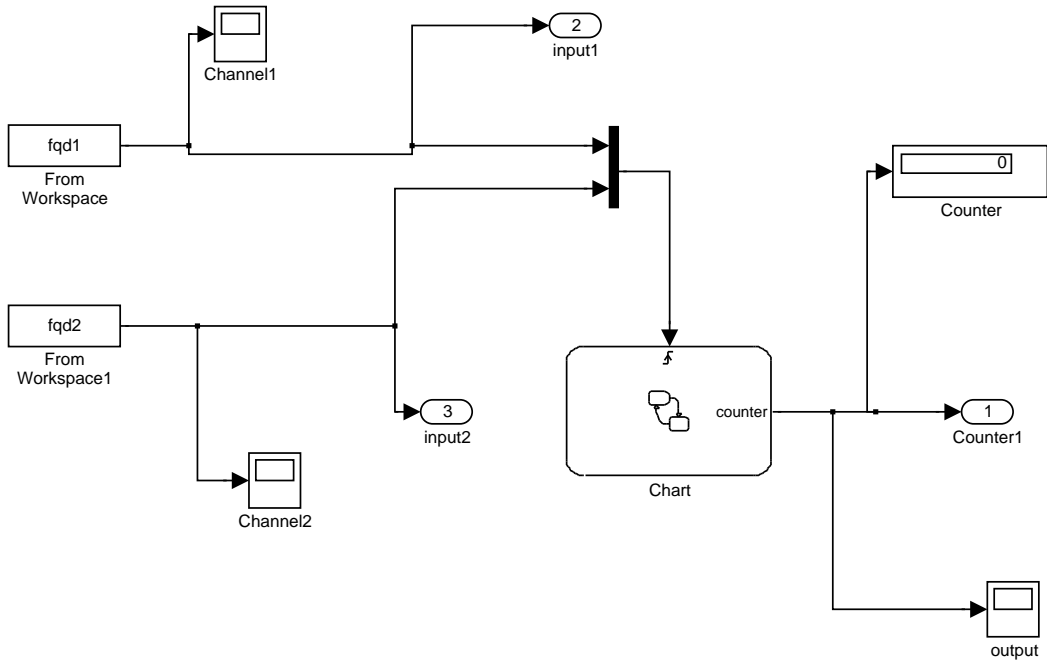
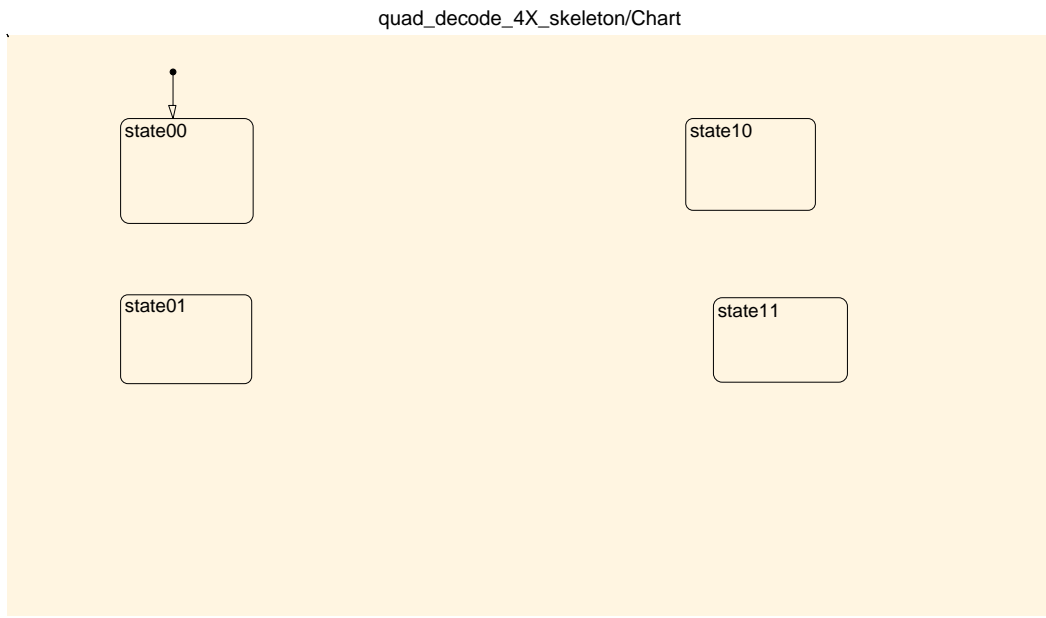

Figure 4: Simulink Model for Normal (4X) Mode Quadrature Decoding
Figure 5: Incomplete Stateflow Chart for Normal (4X) Mode Quadrature Decoding
- (d) Now inspect Figures 4-5, which are a partial implementation of the slow decode mode of the MPC5553. Change the Simulink model to have the form shown in Figure 4. To do so, open the “Mux” block and change the number of inputs to 2, remove the terminator from the secondary input, and enter it into the “Mux” block. With both primary and secondary inputs available, one can perform slow mode, or $4X$, quadrature decoding by using a state machine with 4 states, as shown in Figure 5. Complete Figure 5 by adding transitions between the four states. You will need to open the Tools→Explore menu of your Stateflow block, add the secondary input as an input event, and set the two events to trigger appropriately.